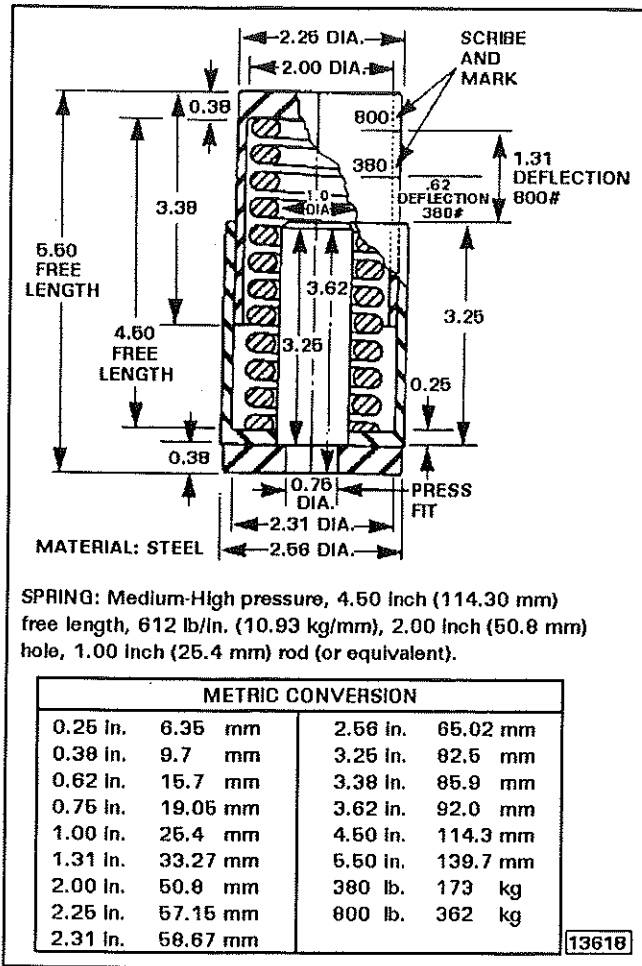

FIGURE 4 - CALIBRATED SPRING POD
1. Assemble the tools shown in Figures 4 and 5.
NOTE: If a hydraulic shop press of suitable requirements is available, the calibration spring pod (Figure 4) is not required. Such a press must have a pressure gauge with a 500 psi (3 500 kPa) range accurately calibrated to read pounds of force exerted by the ram.